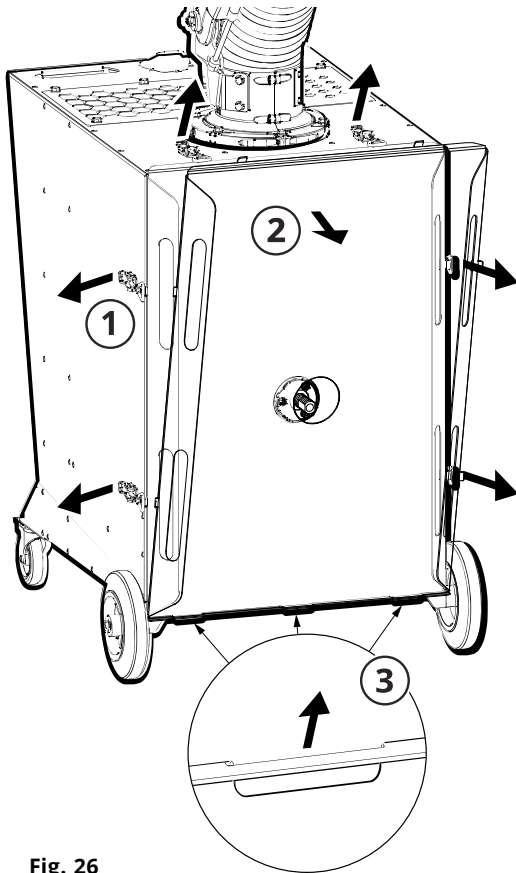

Fig. 26
4. Open the cam locks (1, **Fig. 26**) on the filter hatch. Open the hatch (2). Once the bearing seat is free, lift it upward (3) and remove the hatch.
2. Open the cam locks (1, **Fig. 26**) on the filter hatch. Open the hatch (2). Once the bearing seat is free, lift it upward (3) and remove the hatch.